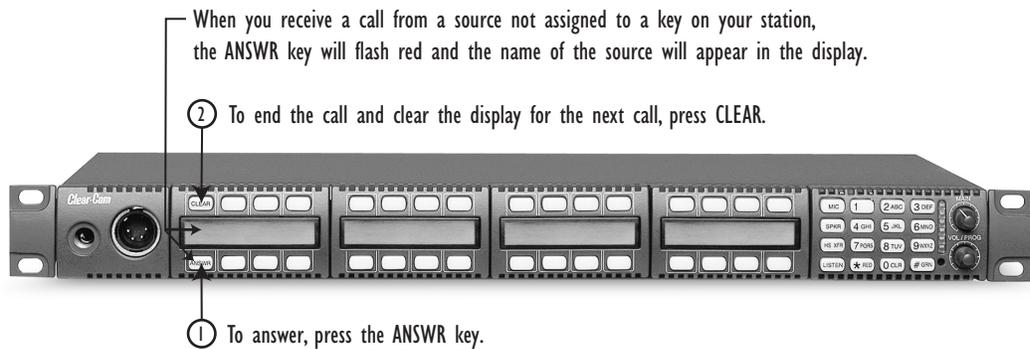

Figure 9: Answering a Call from an Unassigned Source at the Answer-Back Key
- See Figure 9 for an illustration of answering a call from an unassigned source at the answer-back key.